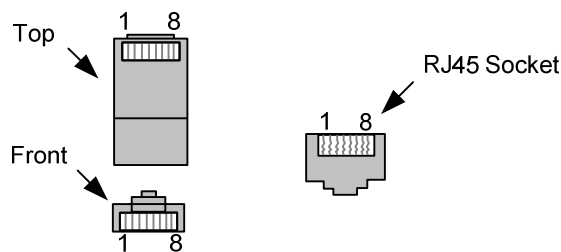

Figure 6-1. RJ45 Plug and Socket Connector Pin-outs.
**Figure** Figure 6-1 shows the RJ45 plug and socket connector pin-outs.